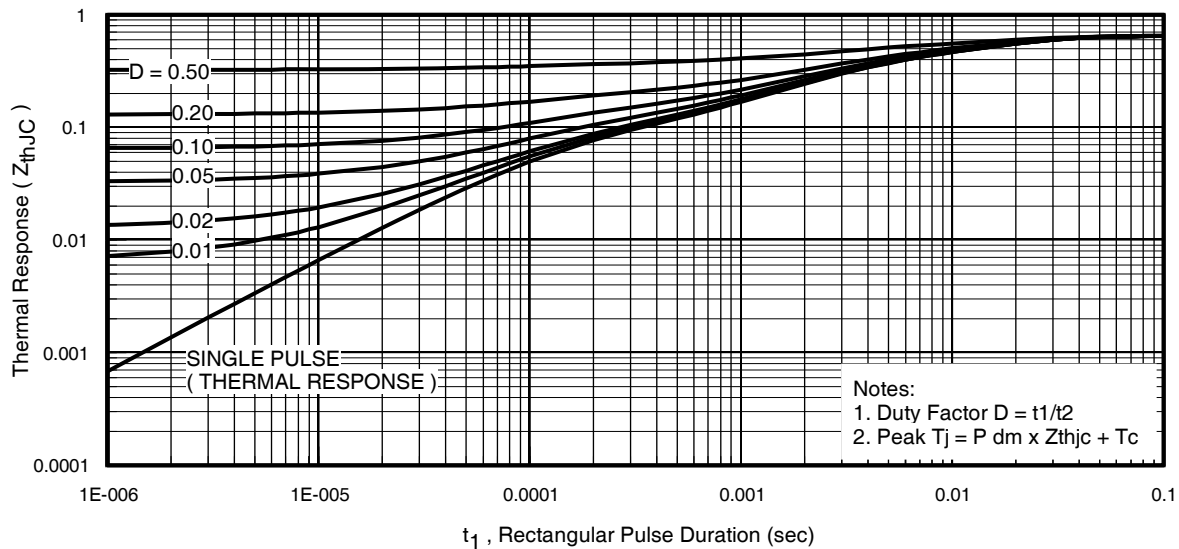

Fig 14. Maximum Effective Transient Thermal Impedance, Junction-to-Case
Notes on Repetitive Avalanche Curves, Figures 14, 15: (For further info, see AN-1005 at www.irf.com)
7. ΔT = Allowable rise in junction temperature, not to exceed T_{jmax} (assumed as 25°C in Figure 14, 15).